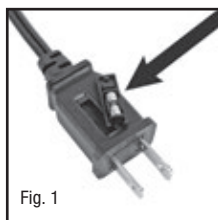
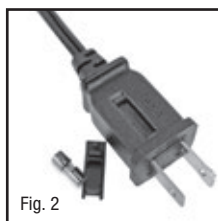

Fig. 1
Fig. 2
- If your fan loses power and you suspect that the fuse on your fan has blown, you should first remove the spare fuse holder attached to the cord plug (Fig. 1). Remove the spare fuse from the plastic spare fuse holder, and set the spare fuse aside (Fig. 2).